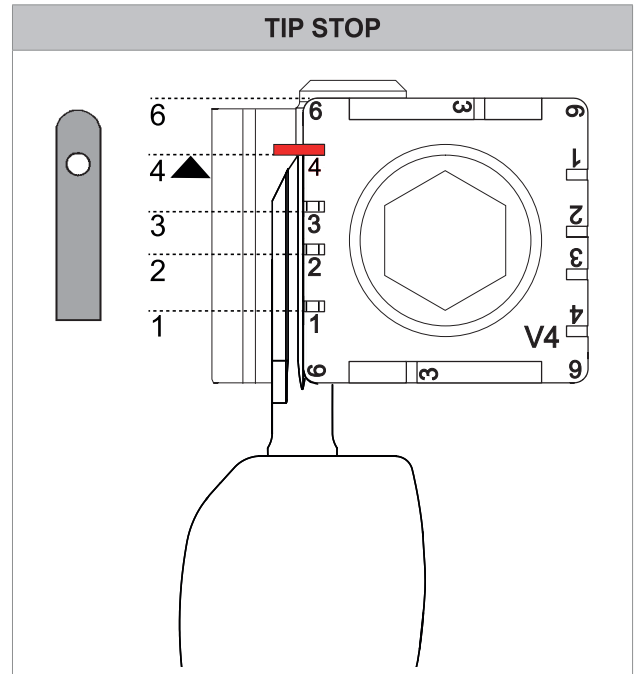

Fig. 92
- To fit keys with tip stops, insert the bar provided into the special grooves (Fig. 92).